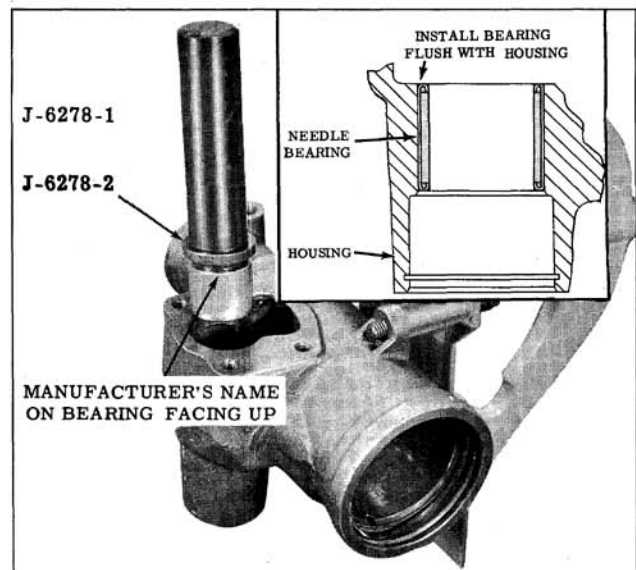

Fig. 8-63 Installing Needle Bearing
1. If the pitman shaft needle bearing was removed, place Adapter J-6278-2 over Tool J-6278-1; slide the new needle bearing on the tool with the manufacturer's identification against the adapter and drive the bearing into the housing until adapter bottoms in housing. (Fig. 8-63)